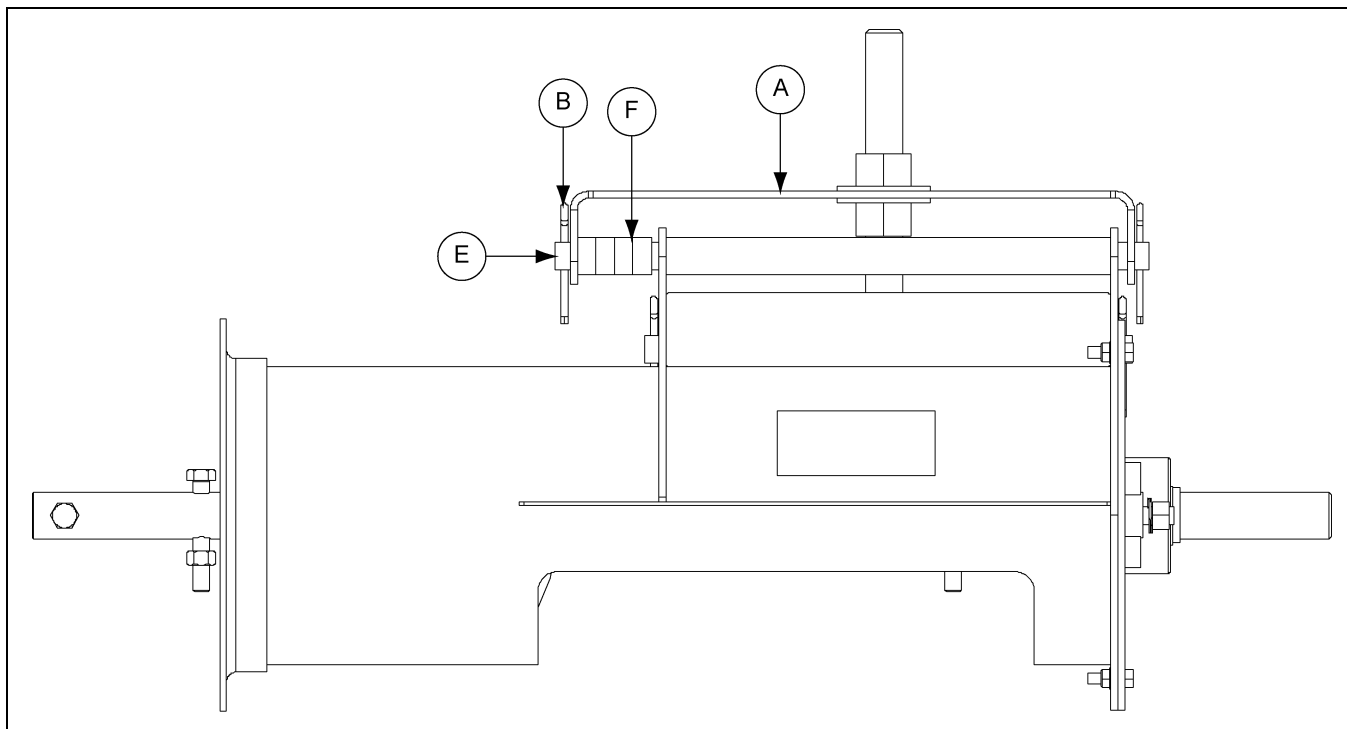

Figure 4P
- Slide the motor mount pivot rod (E) through the pivot tube (C) on the discharge tube.
- When the pivot rod (E) begins to extend through the pivot tube (C), install the spacers (F) BETWEEN the back plate and the inner face of the motor mount plate (A). (See Figure 4P.)